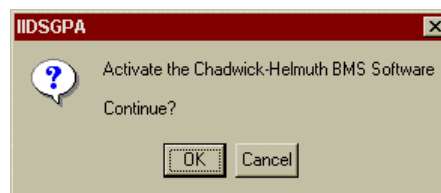

Figure 60. Activate BMS Software Dialog
3. The following dialog box will appear. Select **OK** to launch the BMS program (refer to Figure 60).